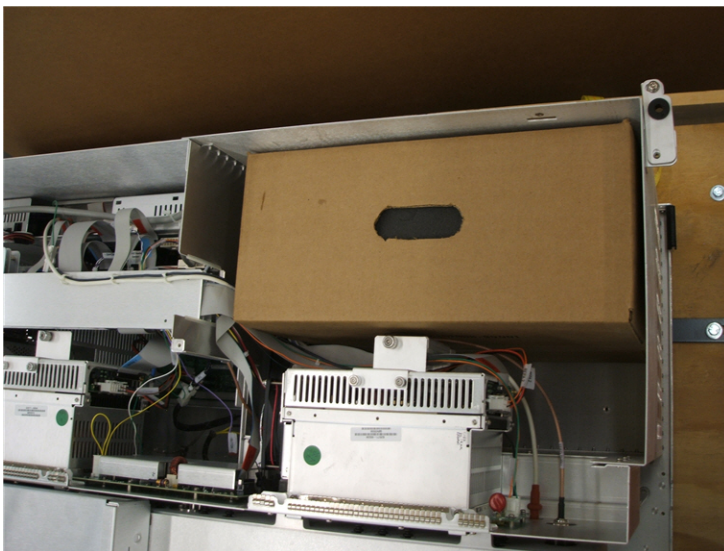

Figure 16 Packaging for AJS ESI source for 6460. For 6490, the AJS ESI is shipped outside of the instrument chassis.
- 2 Remove the AJS ESI source from the packaging inside the instrument chassis next to the e-Module. See Figure 16.